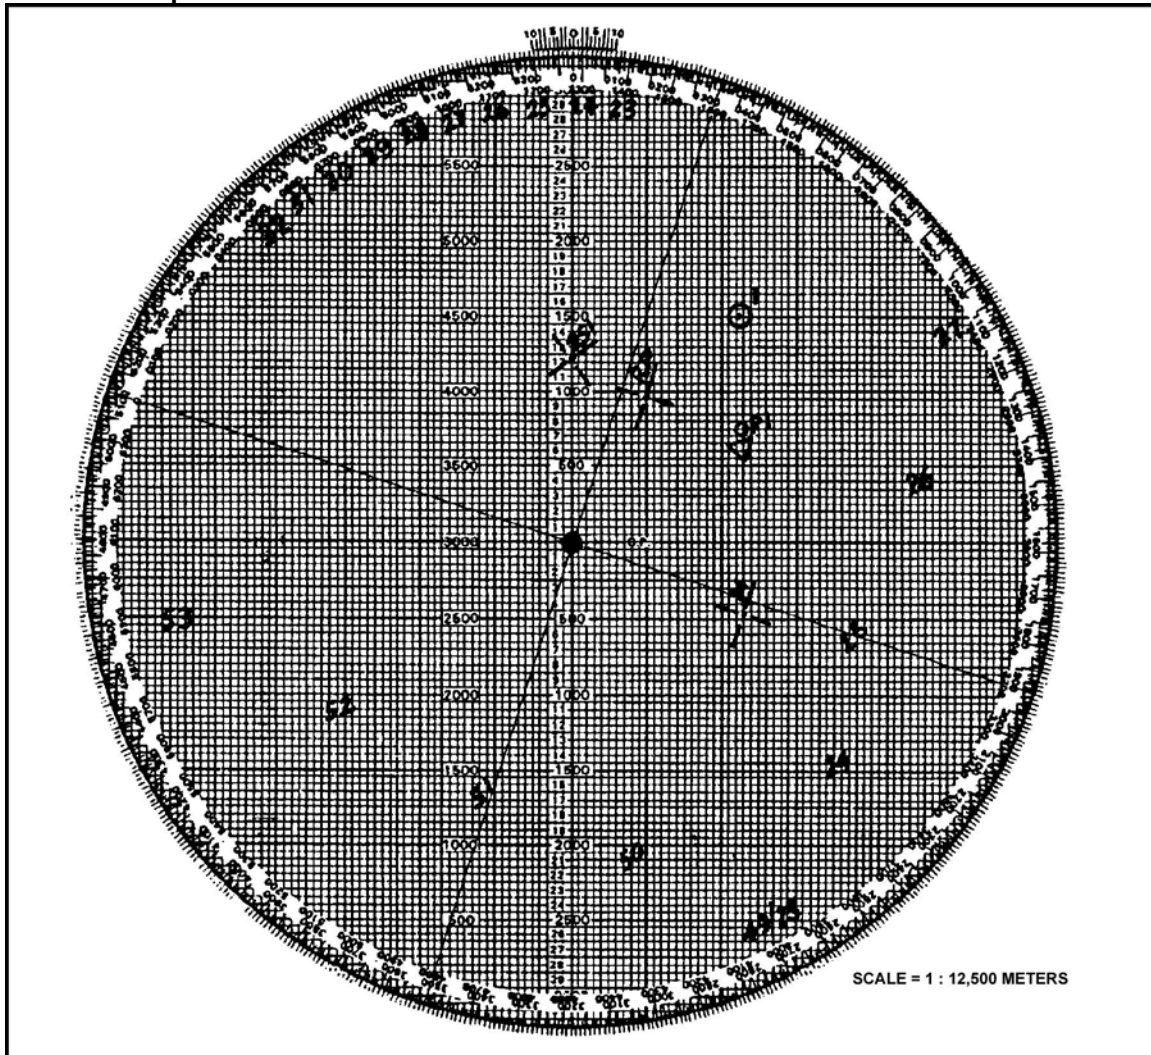

Figure 2. Plotting target location and determining deflection and range.
- a. Index the FO's direction given in the call-for-fire (Figure 2).
- b. Plot the distance given in the call-for-fire using the edge of the computer's record. Place the corner of the computer's record on the line of the alternate range scale of the zero line of the alternate range scale of the plotting board; make a tick mark at the distance (range) given in the call-for-fire--for example, 900 meters (Figure 2). Move the computer's record to the FO's plotted position with the corner placed on the FO's plot. After making sure the edge of the computer's record is parallel to the line on the gridded base, make a plot on the disk at the tick mark on the computer's record. Circle the plot, and label it "1."
- a. Rotate the disk until the target plot is aligned with the mortar plot, which must always be toward the bottom of the plotting board (Figure 2).